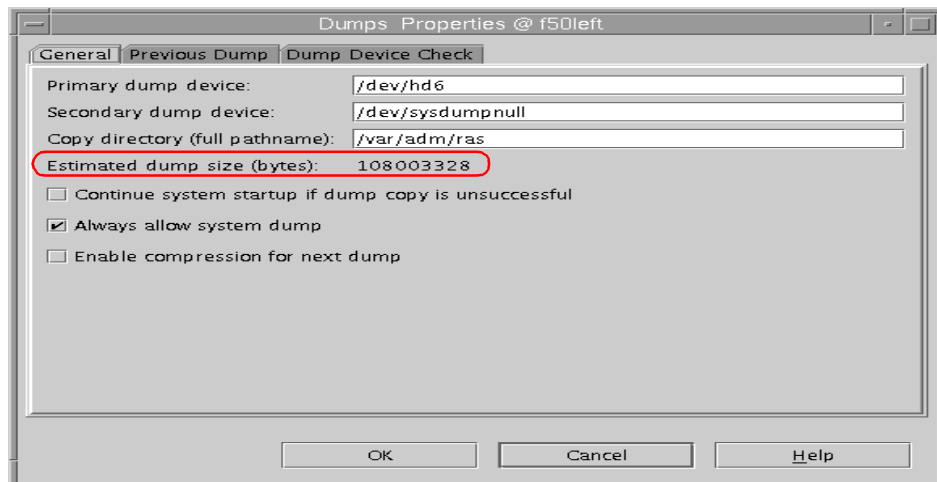

Figure 4-3 Dumps Properties panel
3. The estimated dump size will be displayed, as shown in Figure 4-3.